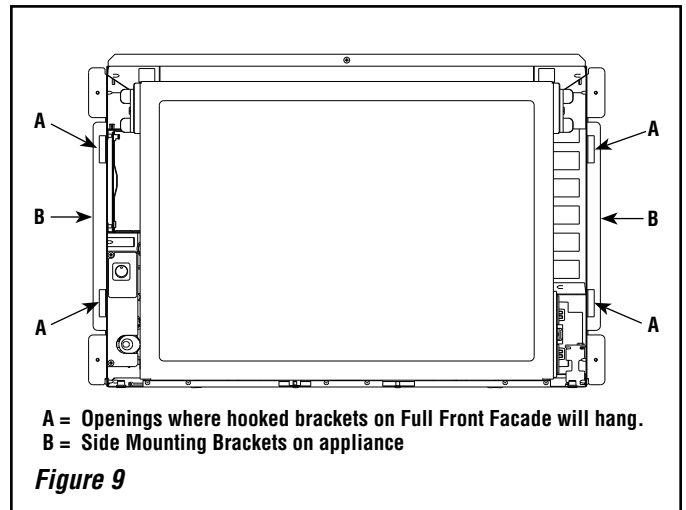

Figure 9
3. Hang the hooked brackets on the Full Front Facade into the openings on the side mounting brackets on the appliance (*see Figure 9*).